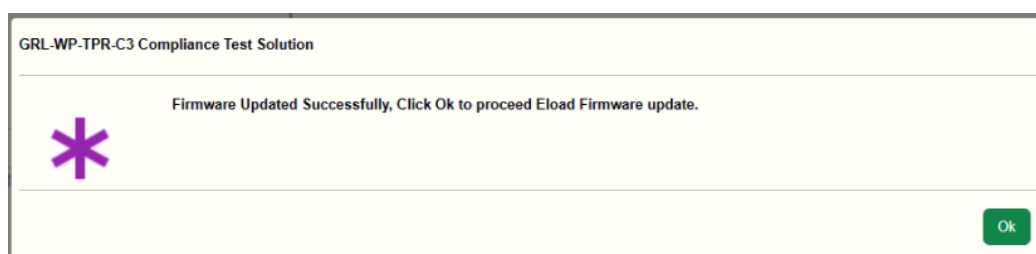

FIGURE 7.5: UPDATE GRL-C3 FIRMWARE– #3
3. A pop-up message will appear when the firmware update process has completed successfully (Figure 7.5 below). Click “Ok” to proceed with E-Load firmware update for the GRL-C3 tester hardware.